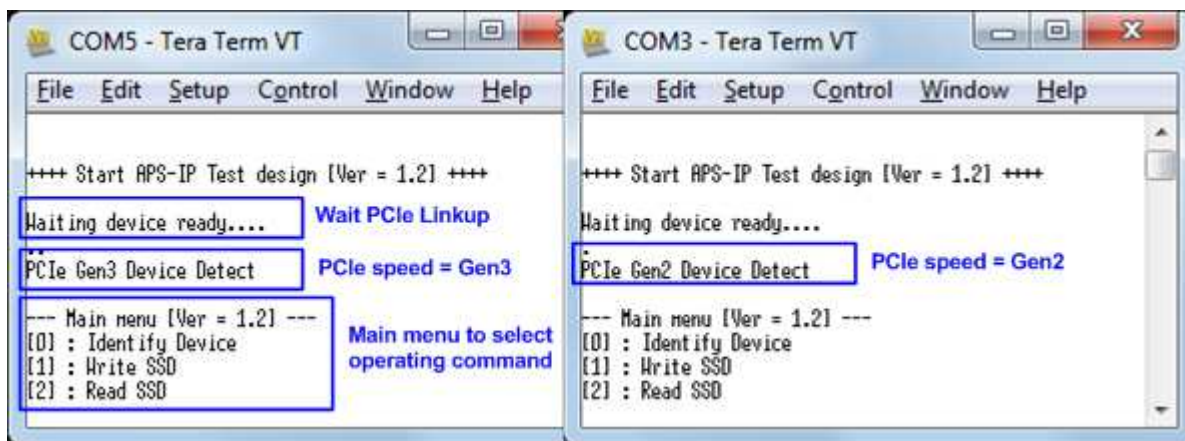

Figure 2-14 Main menu after program configuration file and PCIe initialization complete
11) After programming completely, LED[0] and LED[1] will be ON during PCIe initialization process. Then, LED[1] will be OFF to show that PCIe completes initialization process and now system is ready to receive command from user. PCIe speed will be displayed on the console before Main menu, as shown in Figure 2-14.